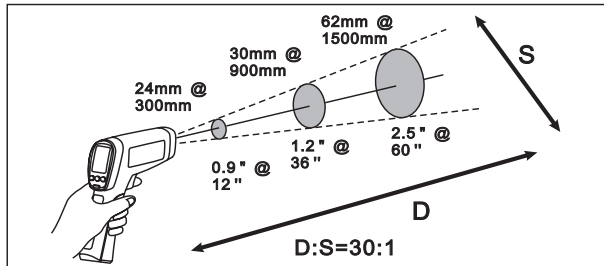

Figure 6. Distance and Spot Size
As the distance (D) from the target being measured increases, the spot size (S) of the area measured by the unit becomes larger. The spot size indicates 90% encircled energy. The maximum D:S is obtained when the Thermometer is 600mm (60 in) from the target resulting in a spot size of 20mm (2 in). See Figure 6.